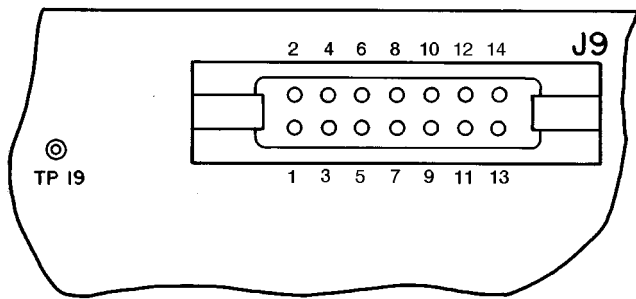

Fig. 34 — Relay Board Pin Terminal Connector (J9)
9. Place negative lead on terminals shown in Table 13, and check voltage between TP15 and terminals shown in Table 13 on pin terminal connector J9. See Fig. 34 for J9 details.